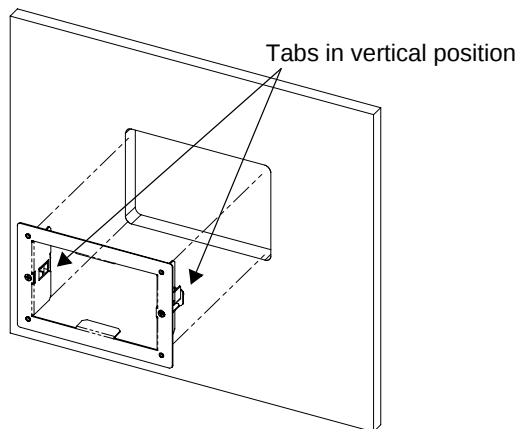

Figure 2-7 Inserting the Mounting Plate
3. Insert the mounting plate with the two tabs in a vertical position into the hole (see Figure 2-7).